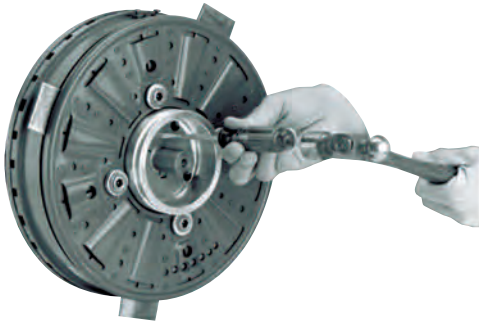

Figure 21 - Seating the taperlock bushing.
Slip the armature hub assembly onto the motor shaft until the armature makes contact with the shims. Using a drift, lightly tap on the taperlock bushing at several points around the circumference with a small hammer until it will not slide further onto the shaft. (See Figure 21)
Step 10: Using a torque wrench, tighten the hub bushing screws (Item 12) alternately and evenly until tight. Place a drift against the large end of the bushing at several points around the circumference and tap it lightly with a small hammer. (See Figure 21) Repeat this alternate tapping and re-tightening until the specified torque no longer turns the screws after tapping. Tighten the screws to 15 lb.ft. torque. The gap between armature and magnet must be .062 to .125 inch. If the gap is outside of that range, reposition the armature hub assembly as described in Steps 11 & 12; otherwise, go to Step 13.